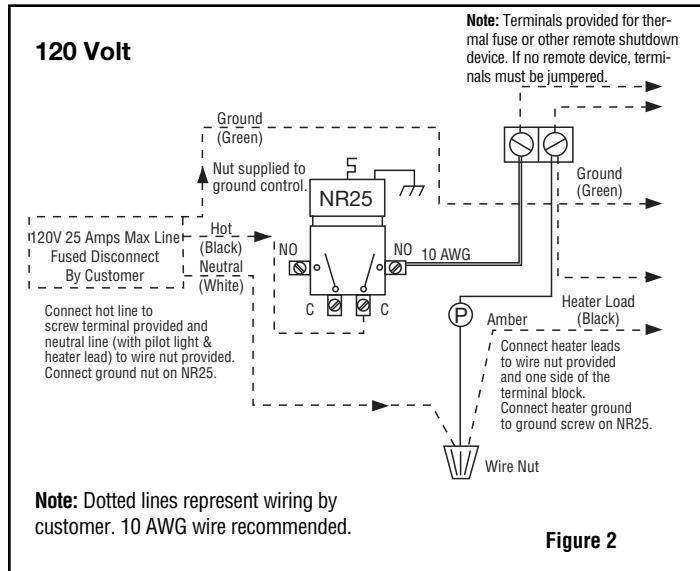

Figure 2
4. Connect wires according to wiring diagrams (Figures 2 & 3).